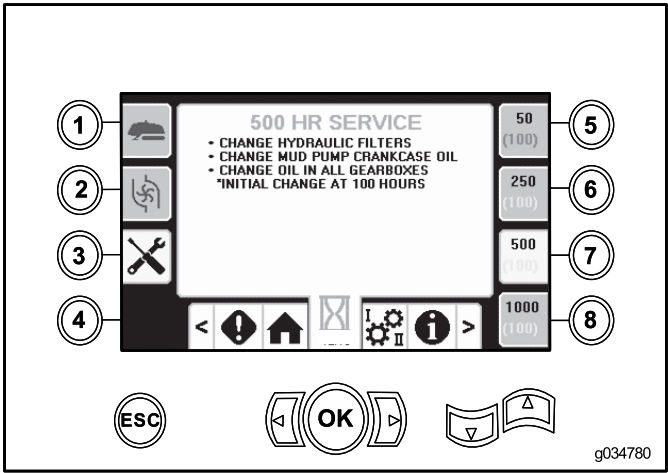

Figure 46
- Button 7—500-hour (Figure 46)